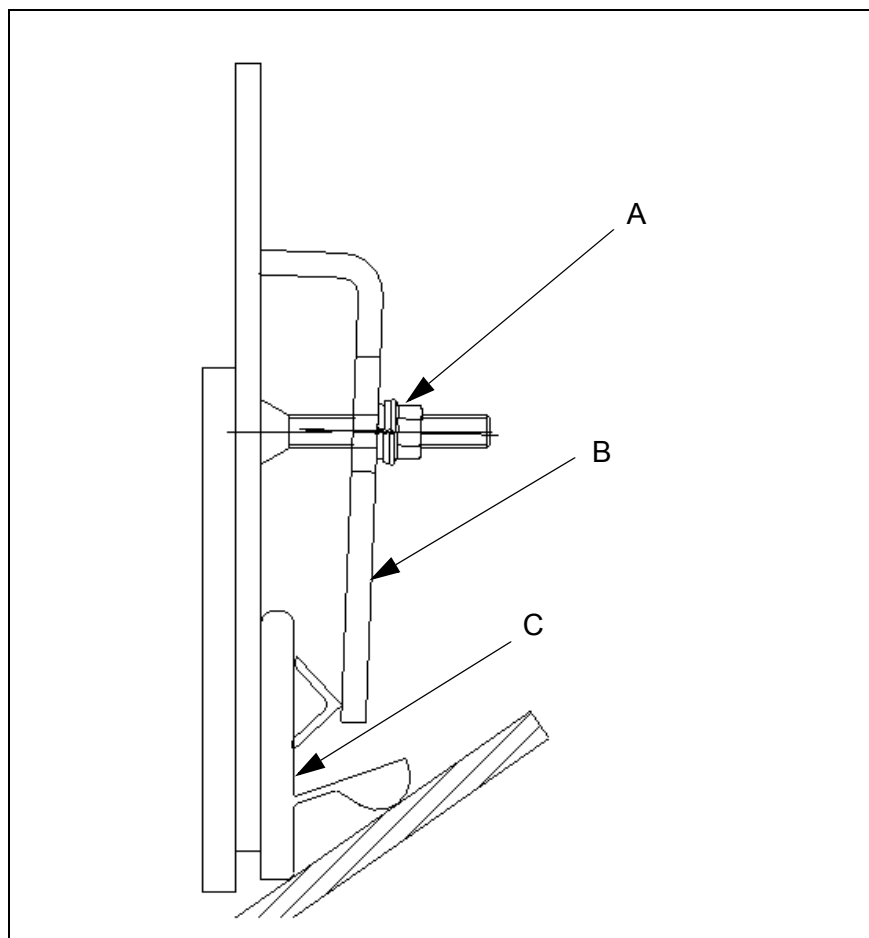

Fig. 6: MARTIN® APRON SEAL™ Skirting System
1. Loosen the nuts on all angle clamps (A, Fig. 6).
2. Remove the angle clamps (B, Fig. 6).
3. Remove the MARTIN® APRON SEAL™ skirting system (C, Fig. 6).